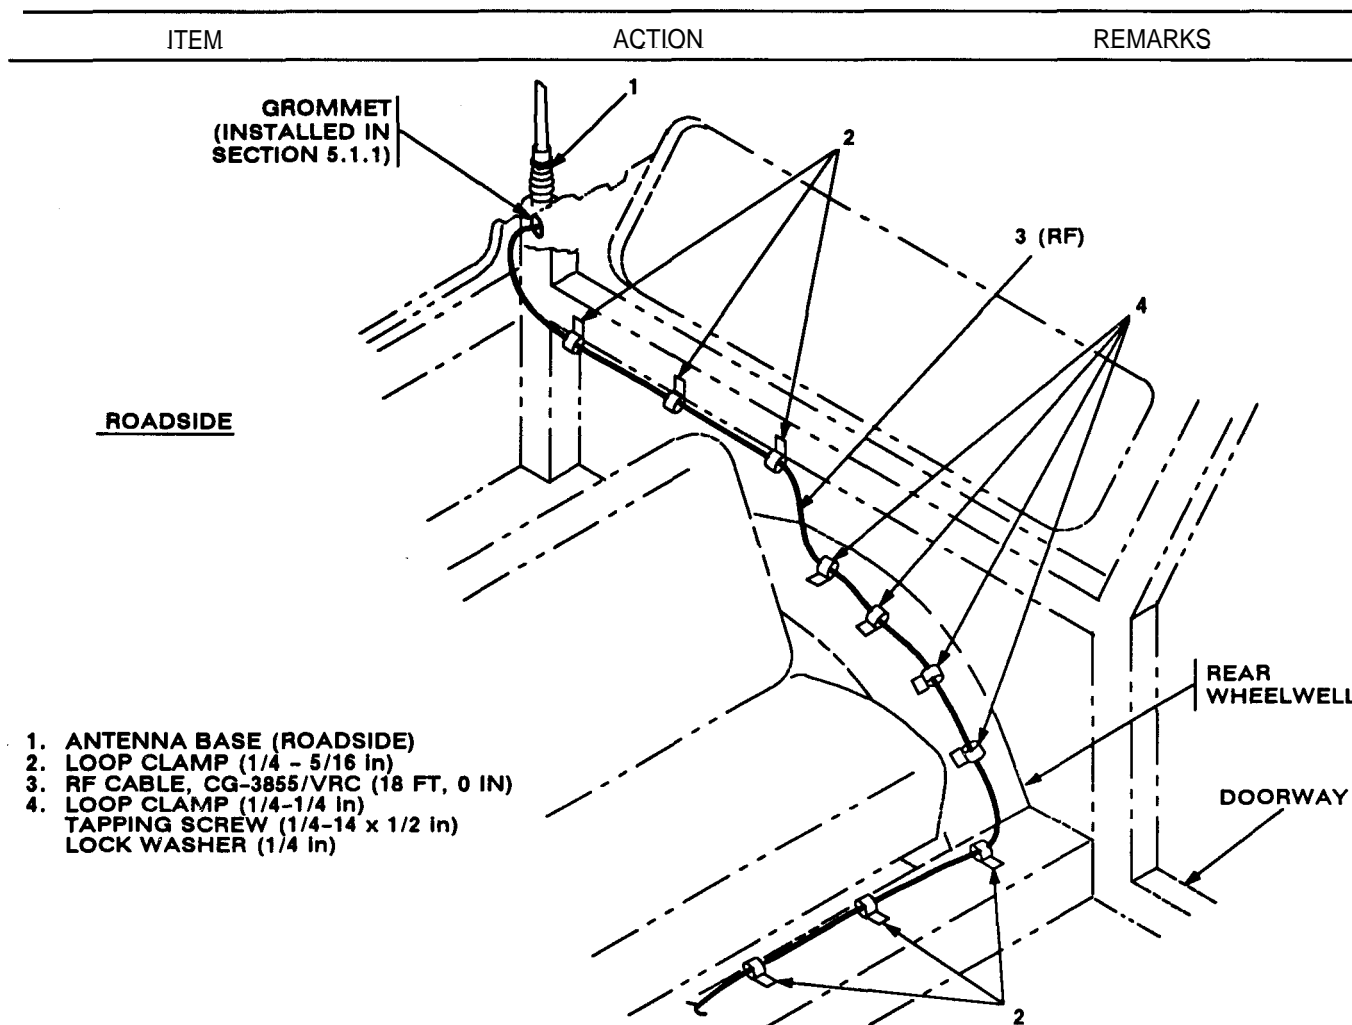

Figure 5-7 (2). Cable Installation: Rear Roadside Area
k. Three loop clamps (6), three pan-head tapping screws (1/4-14 x 3/4 in) and three lock washers (1/4 in).	Wrap clamps around control cable (1) and speaker cable (7); then install to three holes drilled in step j.	Tools: Phillips screwdriver.
l. Power cable (5), speaker cable (7) and control cable (1).	Route along inner edge of curbside door to rear curbside passenger area.
m. Loop clamp (4), pan-head tapping screw (1/4-14 x 3/4 in) and lock washers (1/4 in).	Wrap clamp around control cable (1), speaker cable (7) and power cable (5); then install to hole drilled in step j (near curbside doorway).	Tools: Phillips screwdriver.
n. RF cable (3) connector P1, figure 5-7 (2).	Insert through grommet (10) and loop clamp (6), figure 5-2 (2); then connect and secure to antenna base (1) connector J1.
o. RF cable (3).	Route along window seal and rear wheelwell to roadside doorway. See figure 5-7 (2).